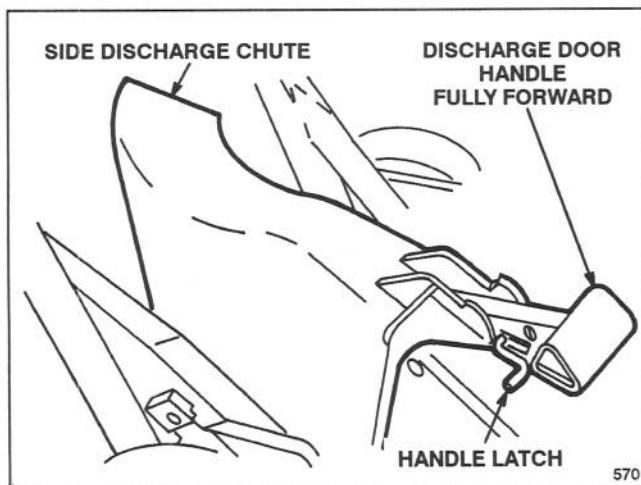

Figure 4
2. Ensure discharge door handle is fully forward (Fig. 4).
3. **INSTALLING CHUTE**—Place opening in discharge chute over discharge tunnel opening and position as shown in Figure 4.